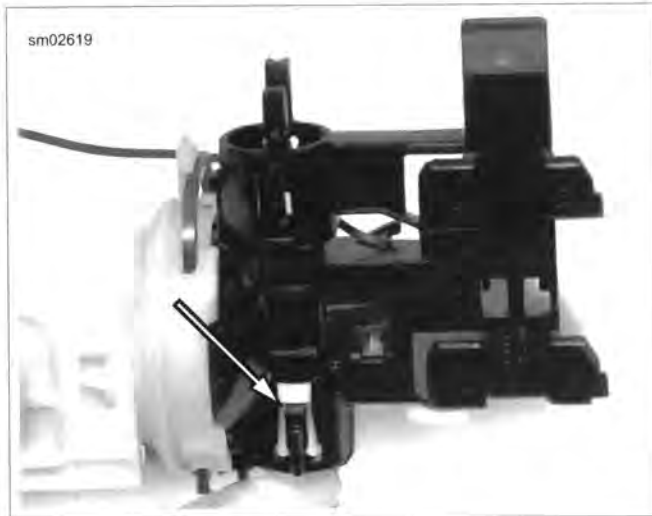

Figure 4-44. Fuel Pump Hose Retaining Clip (2)
- See Figure 4-44. Using screwdriver, break tabs securing fuel pump hose to end cap.
- See Figure 4-44. Install fuel pump hose into **new** end cap.